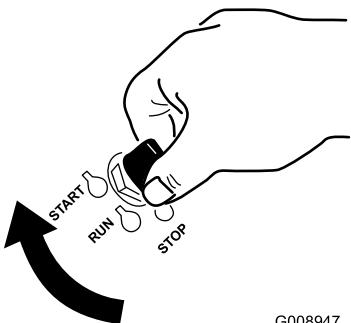

Figure 14
1. Turn the ignition key to the Start position (Figure 14). When the engines starts, release the key.